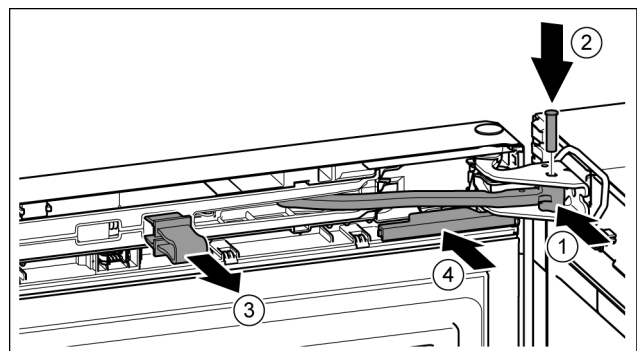

Fig. 22
- ▶ Turn the hinge in the bearing bracket. Fig. 22 (1)
- ▶ Insert the bolt in the bearing bracket and hinge. Make sure that the catch mechanism is sitting correctly in the groove. Fig. 22 (2)
- ▶ Remove the locking device. *Fig. 22 (3)*
- ▶ Slide on the cover. *Fig. 22 (4)*